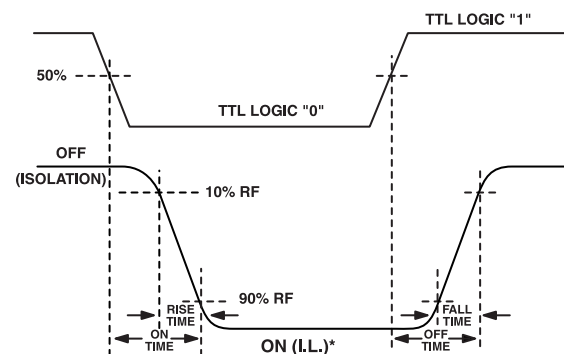

Figure 3 - Detected RF Power
a) Rise Time And Fall Time: These parameters, fundamental to many designs, are actually composed of several subsets, each one defining the time required for switching to take place between two states in the switch response (Figure 3). Rise time is defined as the